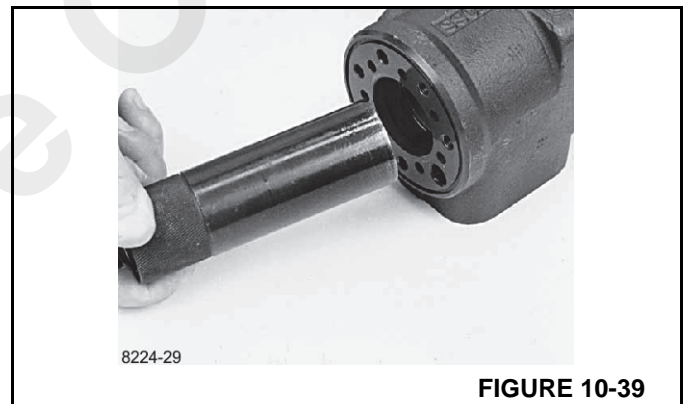

FIGURE 10-39
7. Turn the steering unit until the bore is horizontal. Guide the outer part of the assembly tool into the bore for the spool/sleeve (Figure 10-39).